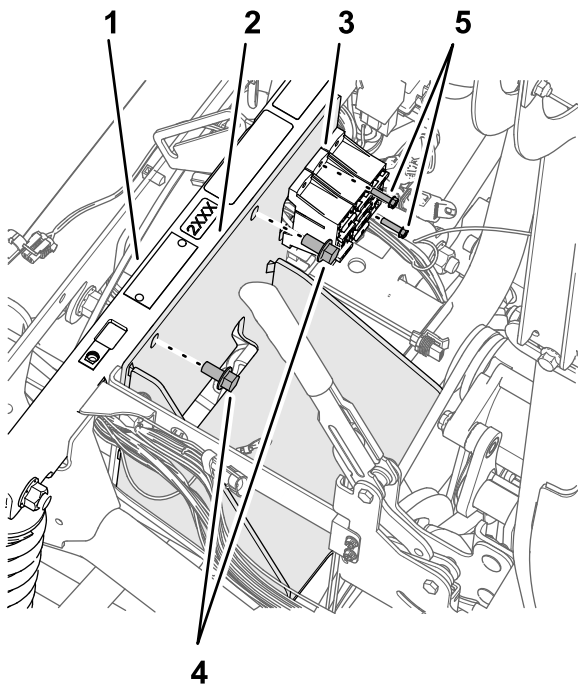

Figure 173
2. Assemble the battery bracket to the shock-support tube (Figure 173) with the 2 flange-head bolt (3/8 x 3/4 inch) that you retained in step 4 of Removing the Battery \(300 A\) and Battery Bracket (page 77).
4. Secure the fuse blocks to the battery bracket (Figure 173) with the bolt (10-24 x 3/4 inch) and nuts (10-24) that you removed in step 3 of Removing the Battery \(300 A\) and Battery Bracket (page 77).